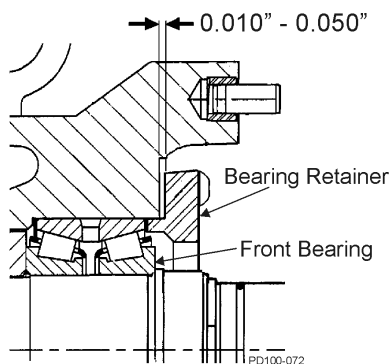

Figure 86 - Bearing Retainer Clearance
5. The bearing retainer must rest firmly against the bearing. Leave a 0.010 to 0.050 in (0.25 to 1.25 mm) clearance between the back of the bearing retainer and the front of the gear case (Figure 86). If this clearance is not met, place shims between the bearing and retainer.